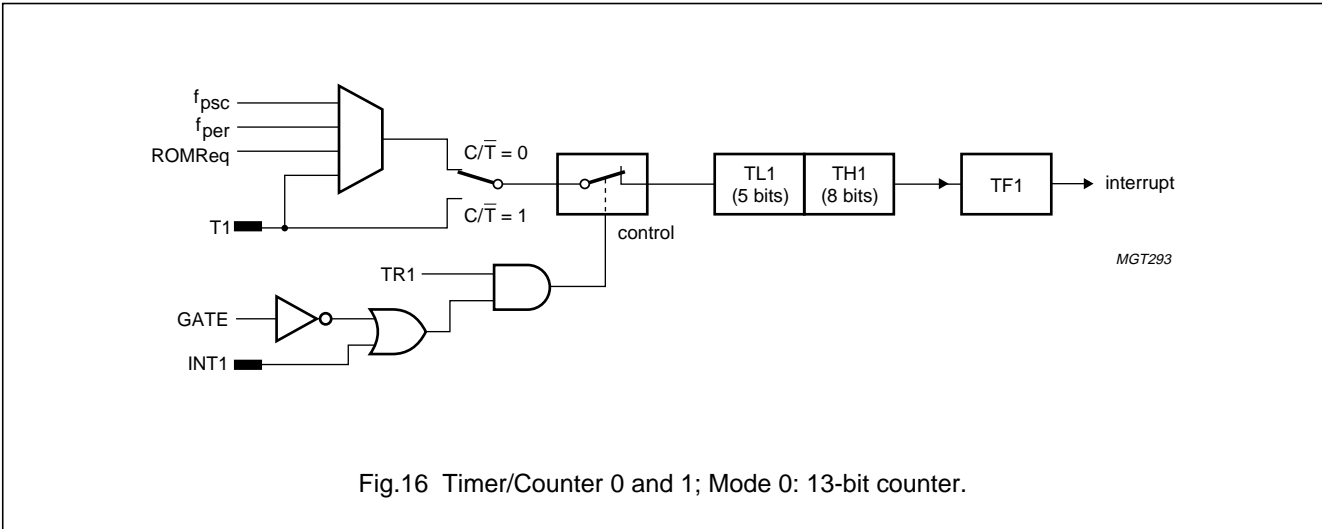

Fig.16 Timer/Counter 0 and 1; Mode 0: 13-bit counter.
- Mode 0** Putting either Timer 0 or Timer 1 into Mode 0 makes it look like an 8048 timer, which is an 8-bit counter with a divide-by-32 prescaler. Figure 16 shows the Mode 0 operation as it applies to Timer 1. In this mode, the timer register is configured as a 13-bit register. As the count rolls over from all logic 1s to all logic 0s, it sets the timer interrupt flag TF1. Timer 1 is enabled when $TR1 = 1$. With $GATE = 0$, it is continuously counting, setting $GATE = 1$, the timer is controlled by the external input INT1, to facilitate pulse width measurements. $TR1$ is a control bit in the SFR TCON (see Section 6.5.3). $GATE$ is in TMOD. The 13-bit register consists of all 8 bits of TH1 and the lower 5 bits of TL1. The upper 3 bits of TL1 are indeterminate and should be ignored. Setting the run flag ($TR1$) does not clear the registers. Mode 0 operation is the same for Timer 0 as for Timer 1. Substitute $TR0$, $TF0$, and $INT0$ for the corresponding Timer 1 signals in Fig.16. There are two different $GATE$ bits, one for Timer 1 (TMOD.7) and one for Timer 0 (TMOD.3).